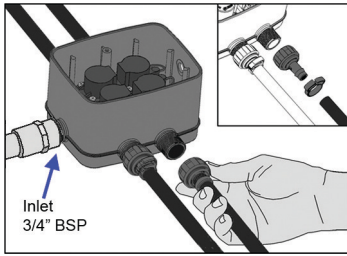

Fig 1
1. Connect the water supply to the 3/4" BSP tapered inlet thread of the eZyvalve™4 box (h). Use only plumbers thread tape to seal threads - **DO NOT use pipe sealant paste**. Connect your irrigation lines to each of the four 3/4" BSP threaded outlets (Fig 1). Cap any unused outlets.